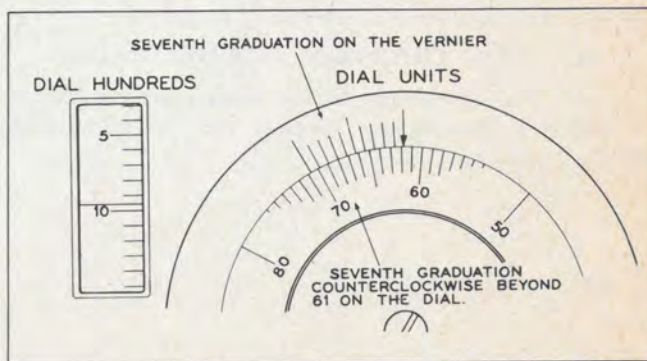

Figure 6-1. Frequency Meter Set SCR-211-(*)
(1) The adjustment of the main tuning capacitor is indicated directly by reading the "DIAL HUNDREDS" control.
(2) One revolution of the "DIAL UNITS" control advances the "DIAL HUNDREDS" control one division. This subdivides each division on the "DIAL HUNDREDS" control into 100 parts.
(3) A vernier (see fig. 6-1) is provided to subdivide each division accurately on the "DIAL UNITS" control. To read the vernier, observe which graduation on the vernier scale aligns with a graduation on the "DIAL UNITS" control. Start with the arrow as zero, count over to this graduation. The resulting number expresses in tenths, the fraction of a "DIAL UNITS" division.
(4) For example, observe the dial setting in figure 6-1. The setting is as follows: